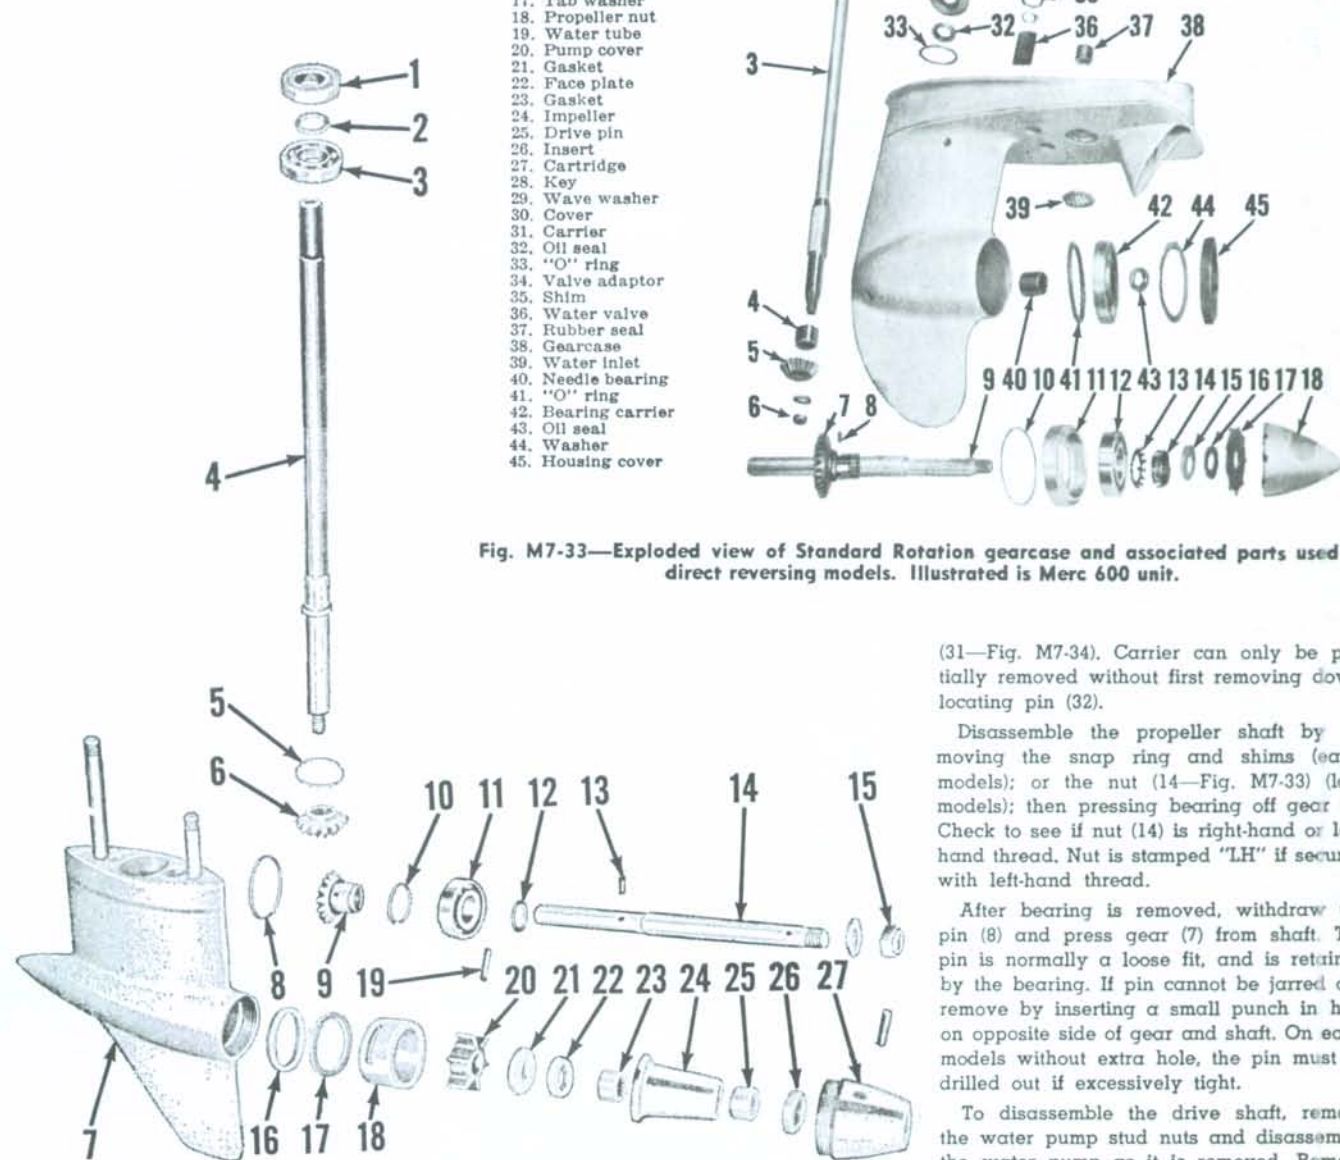

Fig. M7-33—Exploded view of Standard Rotation gearcase and associated parts used on direct reversing models. Illustrated is Merc 600 unit.
STANDARD ROTATION UNIT. Refer to Fig. M7-33. Measure and record the gear backlash before disassembling the gearcase.
Disassemble the propeller shaft by removing the snap ring and shims (early models); or the nut (14—Fig. M7-33) (late models); then pressing bearing off gear (7). Check to see if nut (14) is right-hand or left-hand thread. Nut is stamped "LH" if secured with left-hand thread.